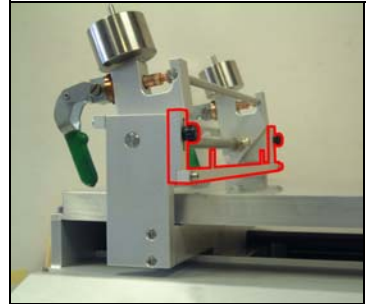

Figure 10. Applicator pushing bar
2. Fit applicator pushing bar into position and tighten knurled screws (Figure 10).